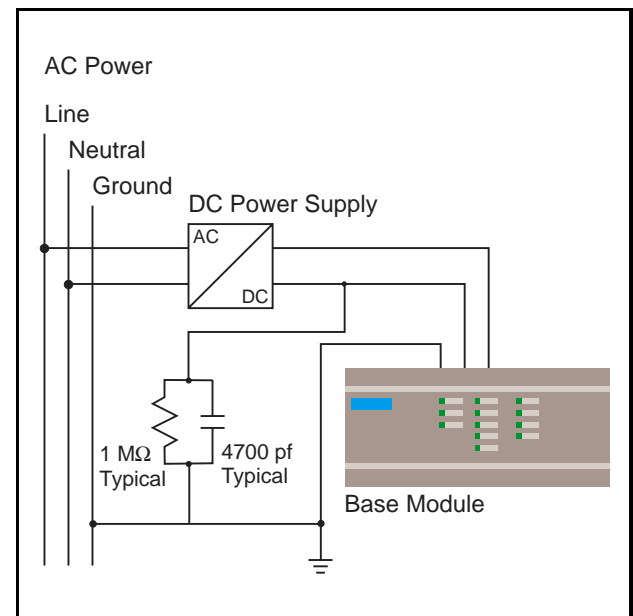

Figure 4.1 DC Supply connection
- For ungrounded DC power supplies, connect a resistor and capacitor in parallel from the power source common to ground. The resistor (1 M Ω typical) provides a leakage path to prevent static charge accumulation. The capacitor (4700 pf typical) provides a drain for high-frequency noise. A grounded DC system may also be created by connecting the power source common directly to ground. See **Figure 4.1** below.